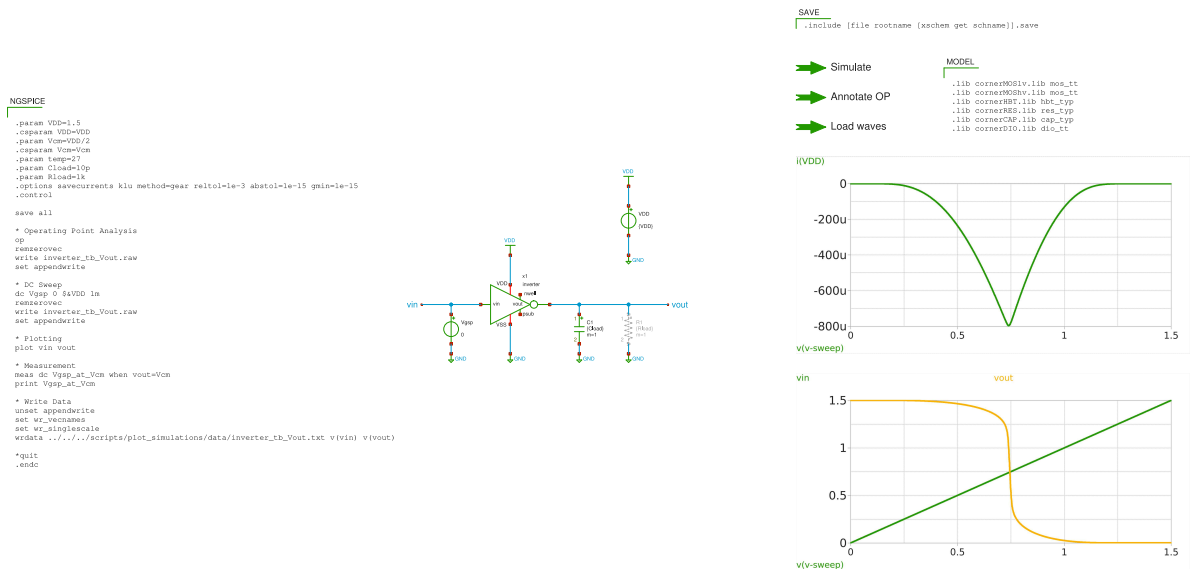

Figure 10: Xschem testbench `inverter_tb_dc_vout` (dc input sweep on inverter).
- `inverter_tb_dc_vout.sch`, dc input sweep (see Figure 10),